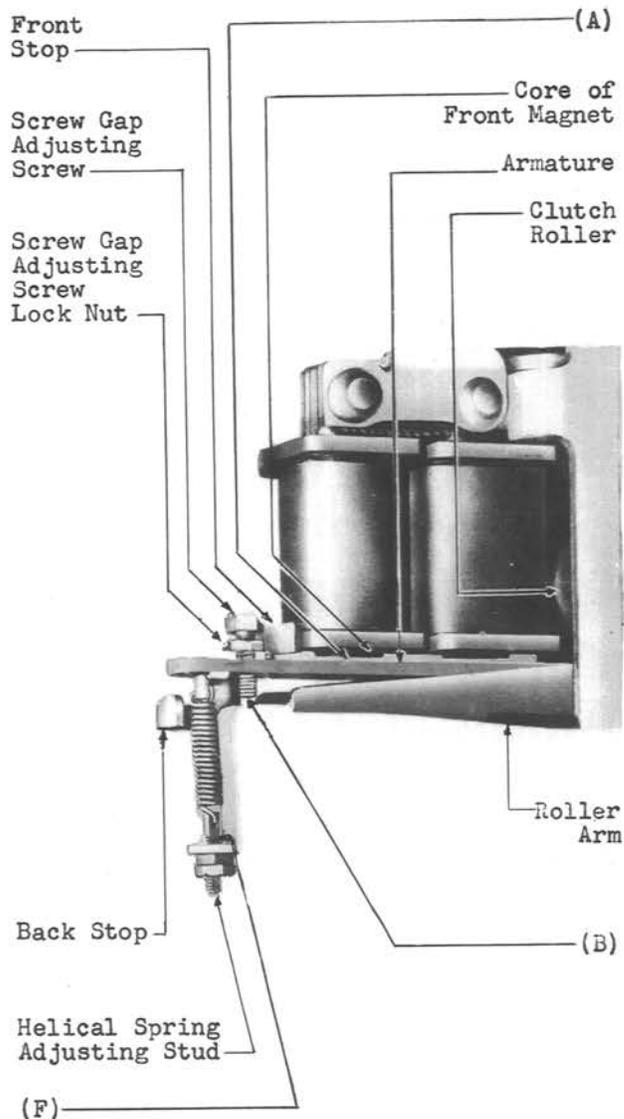

Fig. 9 - Up Drive Armature Fully Operated
2.10 Operated Core Gap - Fig. 9 (A): With the armature fully operated, the gap between the armature and core of the magnet further from the fulcrum measured at a point between the two non-freezing discs on the armature shall be
2.11 Gap Between Screw Gap Adjusting Screw and Roller Arm - Fig. 9 (B):
2.14 Position of Helical Spring Adjusting Stud (Turnover Only) - Fig. 9 (F): After all adjustments have been made, there shall be at least one thread showing above the roller arm to provide for further tensioning of the spring. Gauge by eye.